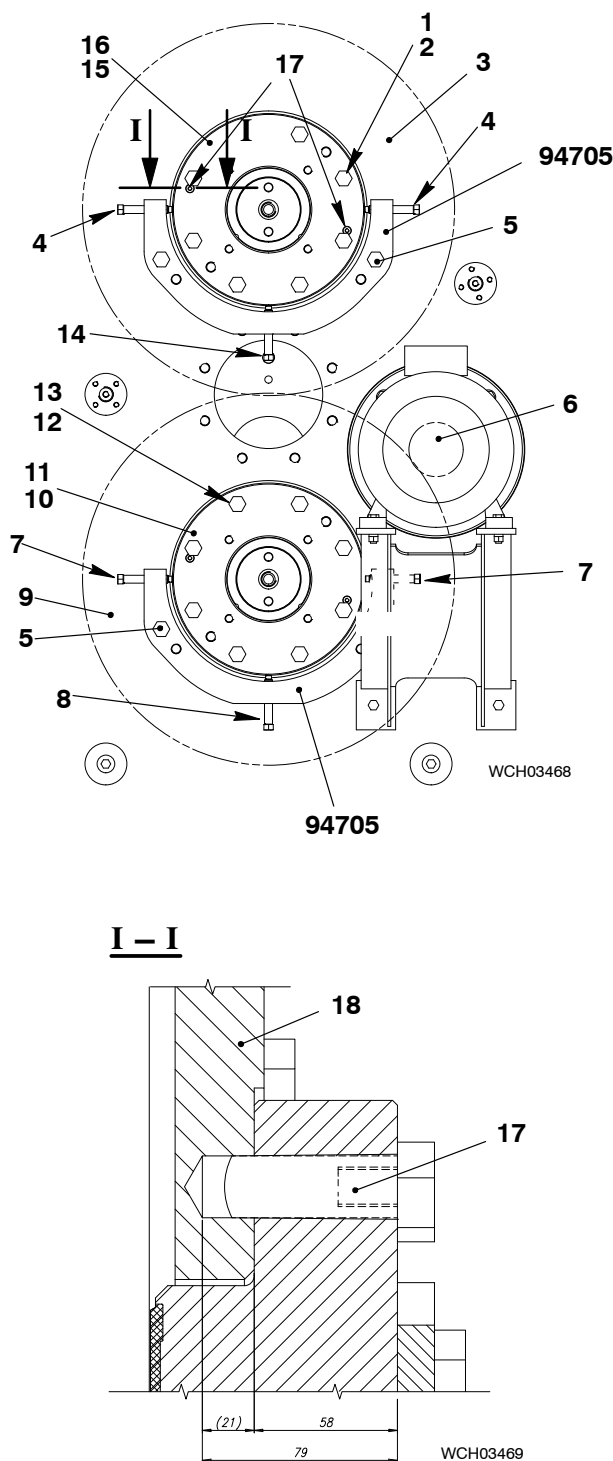

Fig. 17
- 13) Apply oil to the eight screws (5, Fig. 17).
- 14) Attach the four alignment tools (94705) with the eight screws (5) (two tools for the front and rear of each bearing).
- 15) Torque the eight screws (5) to 490 Nm.
- 16) Turn the two screws (14) to lift the front and rear top bearings (15, 16), which removes the load from the bottom gear wheel (9).
- 17) Adjust the backlash between the electric motor pinion (6) and the bottom gear wheel (9).
- a) Turn the two screws (8) to adjust the height of the bottom bearings.
- b) Turn the four screws (7) to adjust the horizontal position of the bottom bearings.